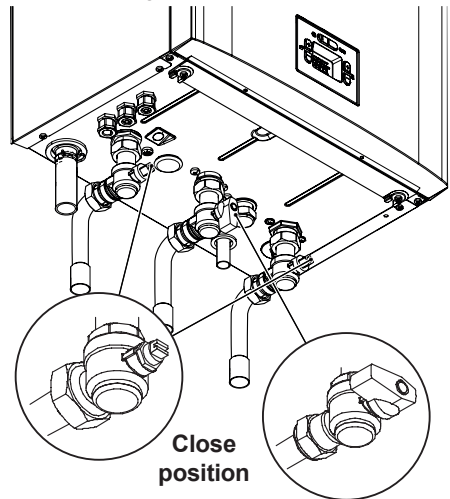

Fig. 2.13
- Shut off the gas supply cock and the valves for the water circuits fitted under the boiler Fig. 2.13;